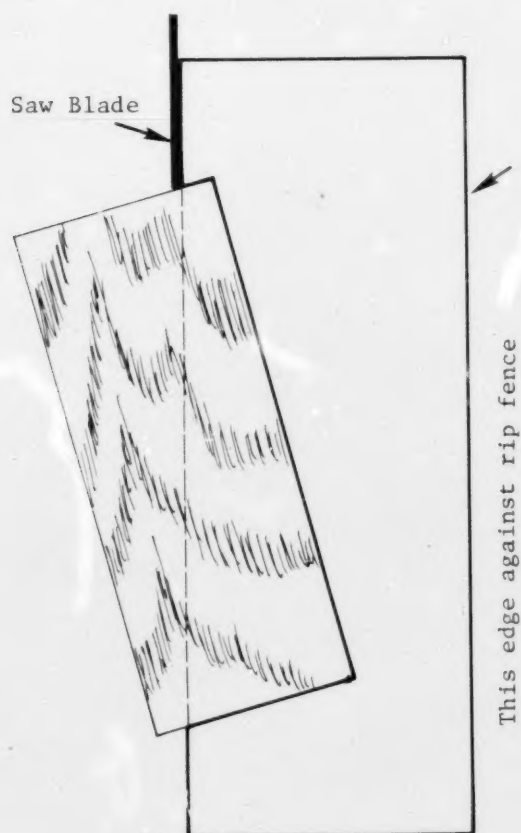

Fig. 3
2. Place cut 51 mm x 101.5 mm in jig and position upper left corner of jig so it just touches the blade on the table saw. Move rip fence so it touches the right side of jig. Make cut. (Fig. 3)